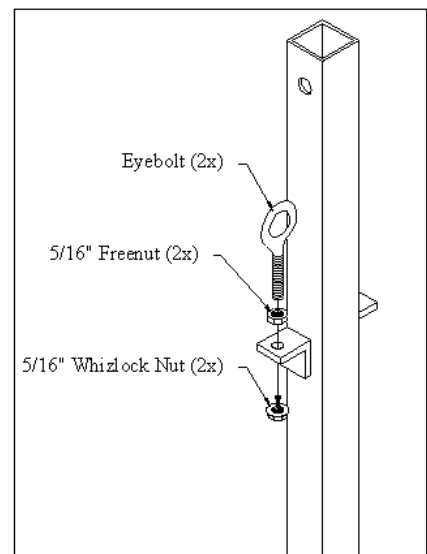

Fig. 8
8. Spin $\frac{5}{16}$ " hexnuts onto eyebolts (23). Fit eyebolts thru eyebolt brackets on vertical support and secure with $\frac{5}{16}$ " whizlock nuts. **Fig. 8**